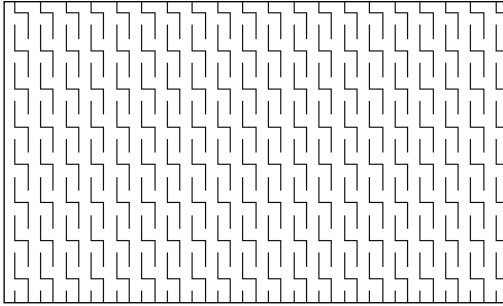

Figure 31-11: The lightning hatch pattern.
10. Choose Select Objects and pick the rectangle in your drawing. Press Enter. Click OK. The rectangle fills with the lightning hatch, as shown in Figure 31-11.